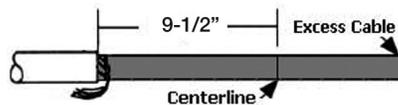

Fig. 2 - Jacket & Neutral Prep
- B. To provide sufficient length of concentric neutral conductor for grounding after installation, measure 9 1/2" down the cable from the centerline of the bushing interface and remove the outer jacket to this distance. Care should be taken not to damage drain wires. Bend neutral wires out of the way. See Figure 2.